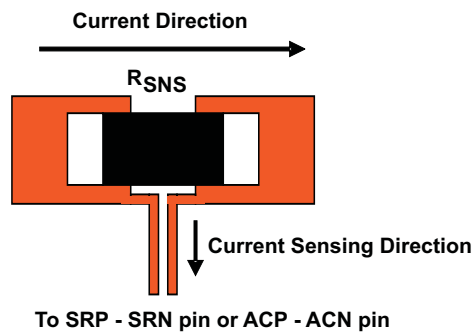

Figure 23. Sensing Resistor PCB Layout
4. The charging-current-sensing resistor should be placed right next to the inductor output. Route the sense leads connected across the sensing resistor back to the IC in same layer, close to each other (minimize loop area), and do not route the sense leads through a high-current path (see Figure 23 for a Kelvin connection for the best current accuracy). Place decoupling capacitors on these traces next to the IC.